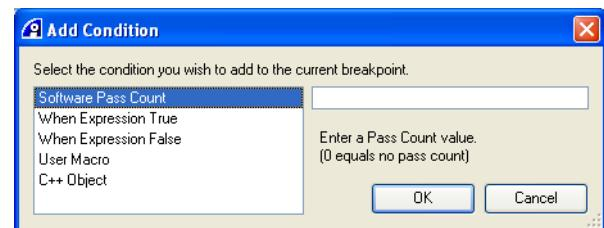

Figure 12-11 Add Condition dialog box
3. Click **Add** in the Conditions group. The Add Condition dialog box is displayed. Figure 12-11 shows an example: